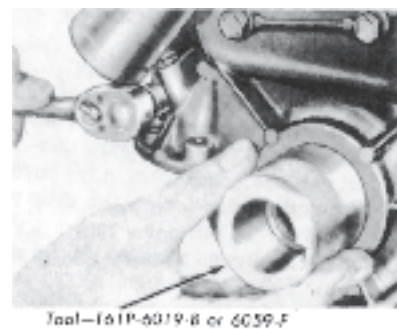

Fig. 25 Aligning Cylinder Front Cover
10. Coat the threads of the attaching screws with oil resistant sealer and install the screws. While pushing in on the alignment tool, tighten the oil pan to cover attaching screws to specifications (Fig. 25). Tighten the cover to block attaching screws to specifications. Remove the pilot.